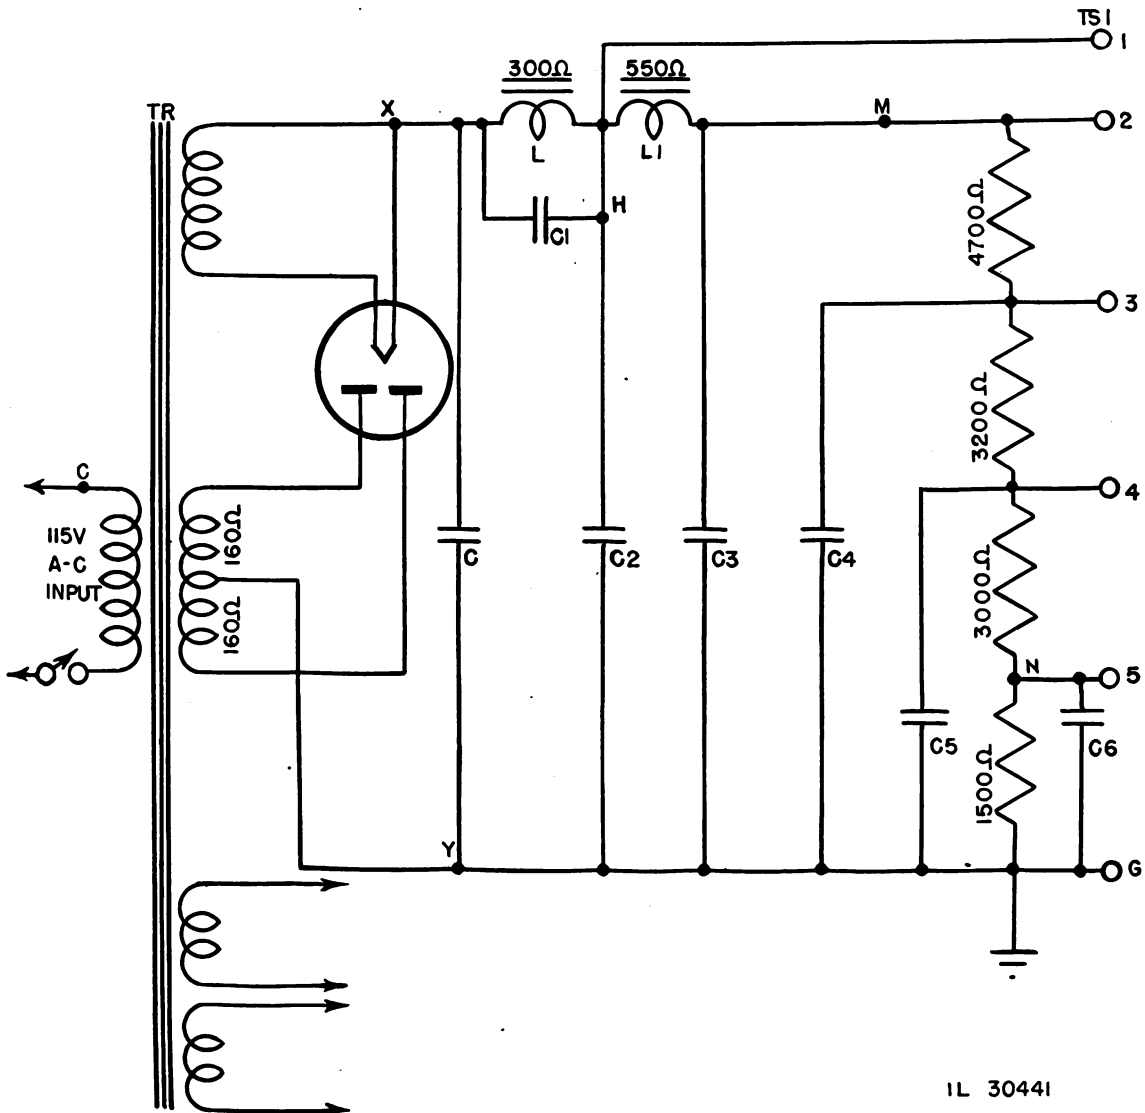

Figure 72. Resistance measurements functional schematic.
a. Figure 72 illustrates a rectifier circuit with six outputs taken off terminals No. 1 to No. 5 and terminal G on terminal strip TS1. This circuit can be checked for resistance measurements as a single unit (with external wires disconnected) by starting with the rectifier-tube filament. The following subparagraphs show the methods used in checking resistances in rectifier circuits. These methods can be applied with slight variations to practically any type of standard rectifier.